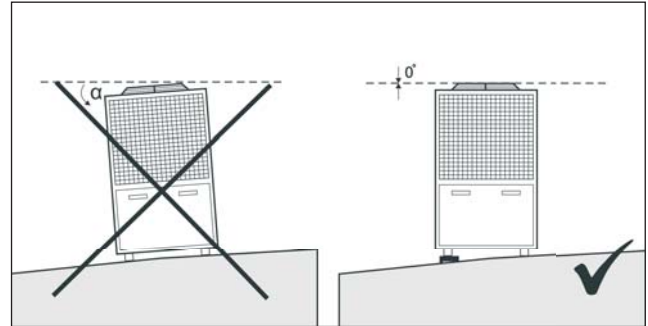

Fig. 9.8
- The unit must be mounted level. The difference from the horizontal must not be more than 3 mm per 1 m (Fig. 9.8).